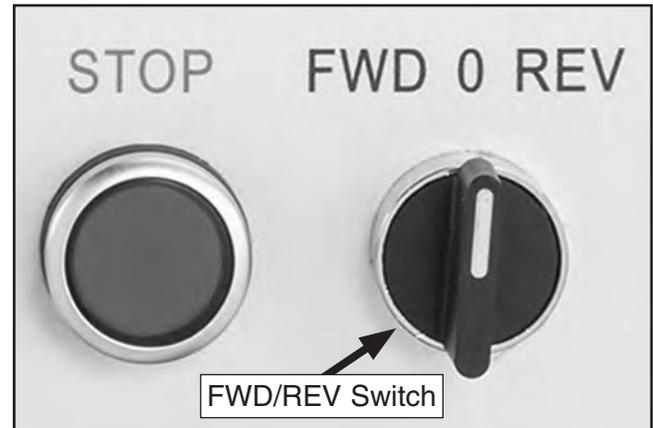

Figure 119. FWD/REV switch set to "0".
2. Move FWD/REV switch to "0" (see **Figure 119**) so feed rod can be rotated by hand.
4. Remove chuck (see **Page 33**), then shift spindle to neutral by moving FWD/REV switch to "0" (see **Figure 119** on **Page 75**).